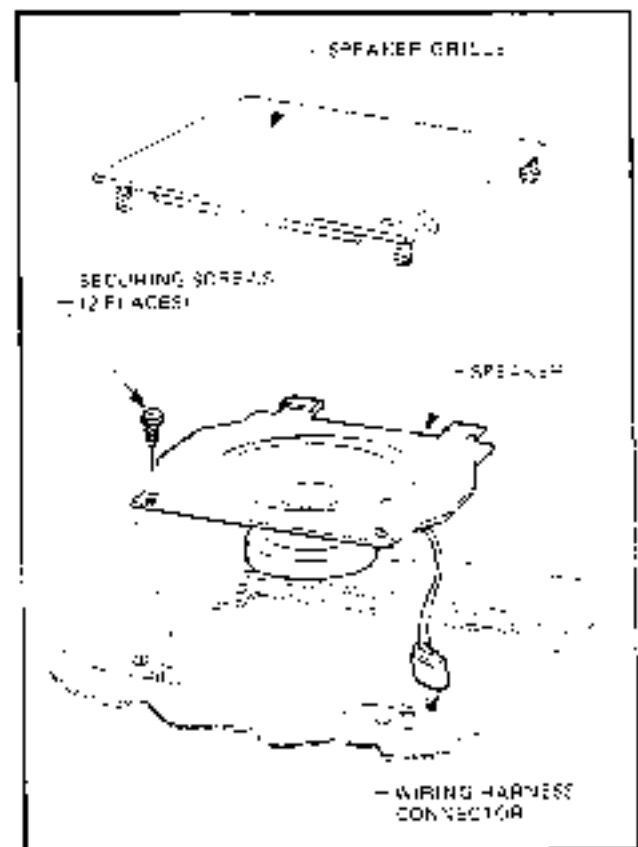

Figure 12D-4
3. Lift up speaker to disconnect wiring harness connector. Remove speaker, refer Fig 12D-4.